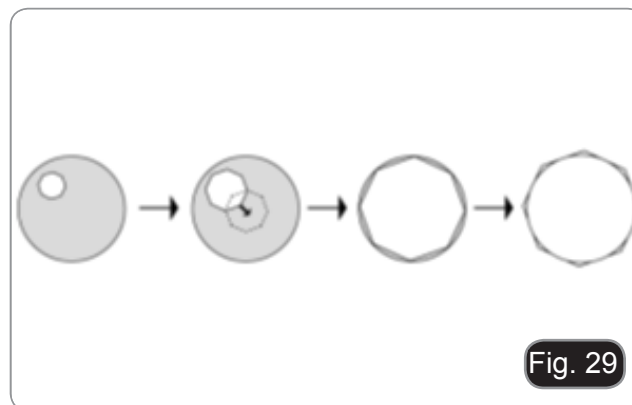

Fig. 29
4. Gradually open the diaphragm by inserting the lever ①. The diaphragm is centered when the diaphragm image is symmetrical to the field of view.(Fig. 29)